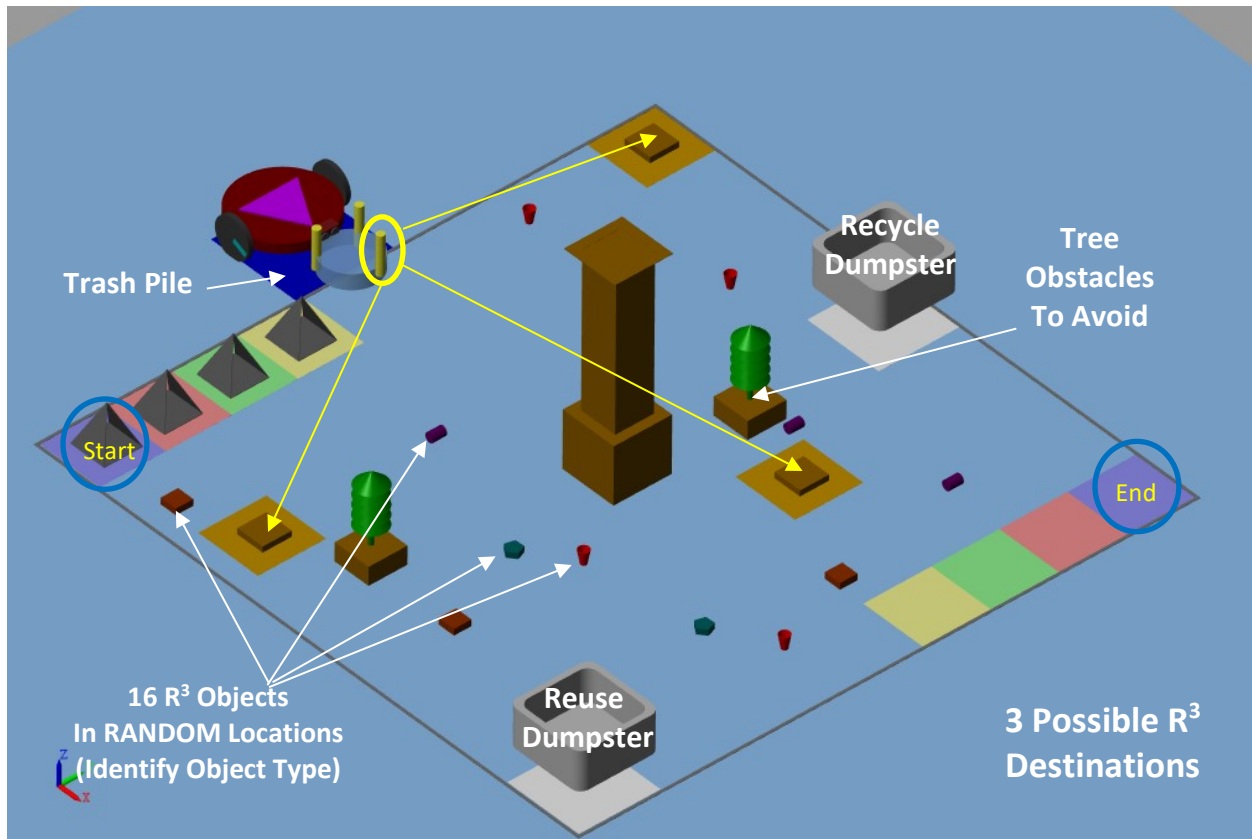

Figure 2.9. Phase 6 Field Layout and Objectives
- Figure 2.9 represents the field layout expected during Phase 5.
- Three (3) light poles are preloaded onto the virtual robot at the beginning of the phase. Once dropped, the light pole(s) cannot be retrieved.